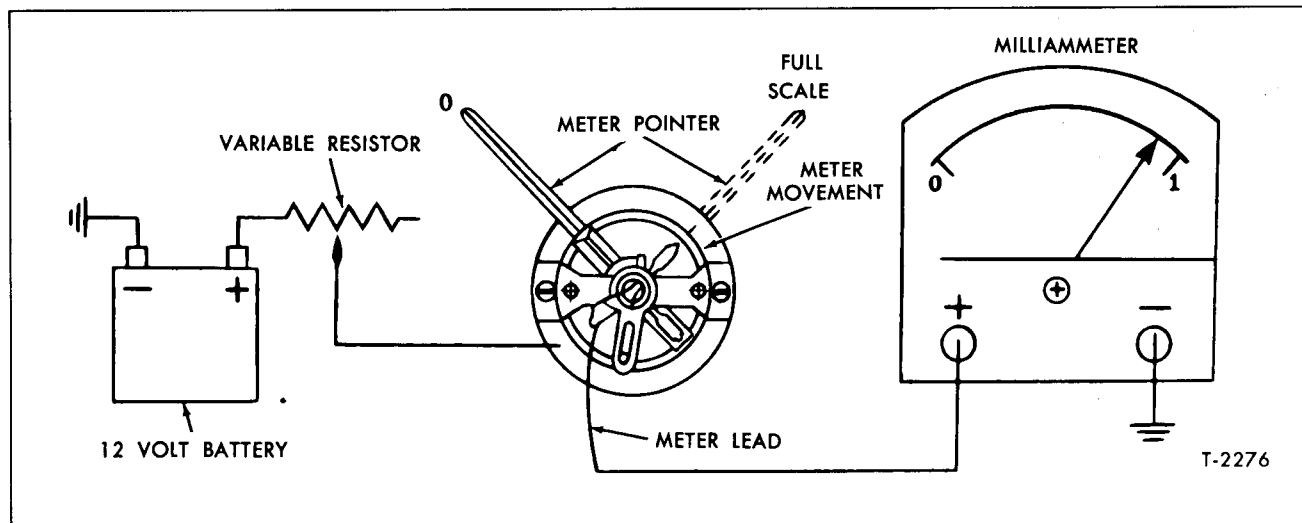

Figure 13—Speedometer Meter Movement Test Schematic
METER MOVEMENT (Fig. 13)
2. Connect battery, variable resistor, meter movement and milliammeter as shown in figure 13.